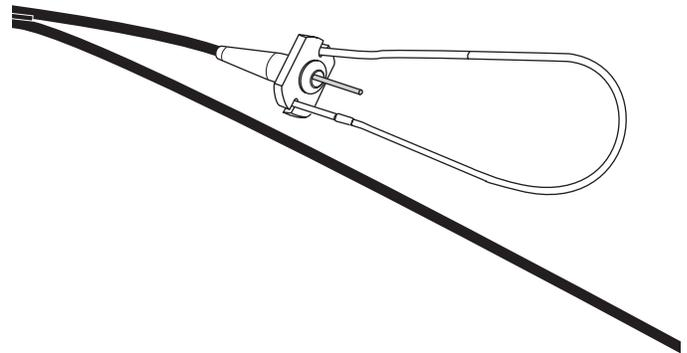

Figure 2
4.3 To secure the cable in an aerial application, separate the cable components as described in Section 5 of this procedure and install a Wirewise # 5056 or an equivalent clamp per its manufacturer's instructions (Figure 2).